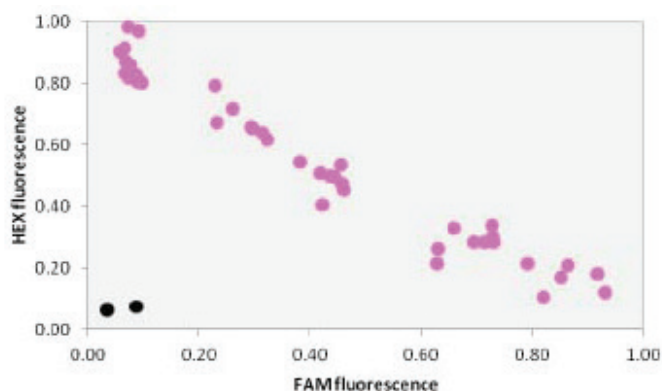

Figure 3.5. There appear to be more than three genotyping clusters visible on the plot.
**Plot characteristics:** more than three genotyping clusters are visible on the cluster plot (Figure 3.5).